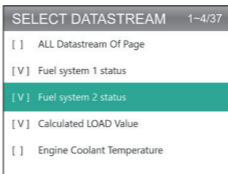

Figure 3.5.3
- You can also select "All Datastreams of Page" to view all available items (See Figure 3.5.3).